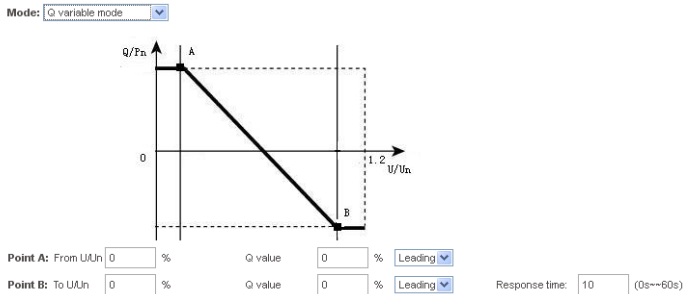

Fig. 6-15: Q variable mode
- Q variable mode: In this mode, the ZeverManager will produce a curve according to the “U/Un”, “Q value” and phase position of points A and B, and will regulate the reactive power according to this curve, as shown in Fig. 6-15.